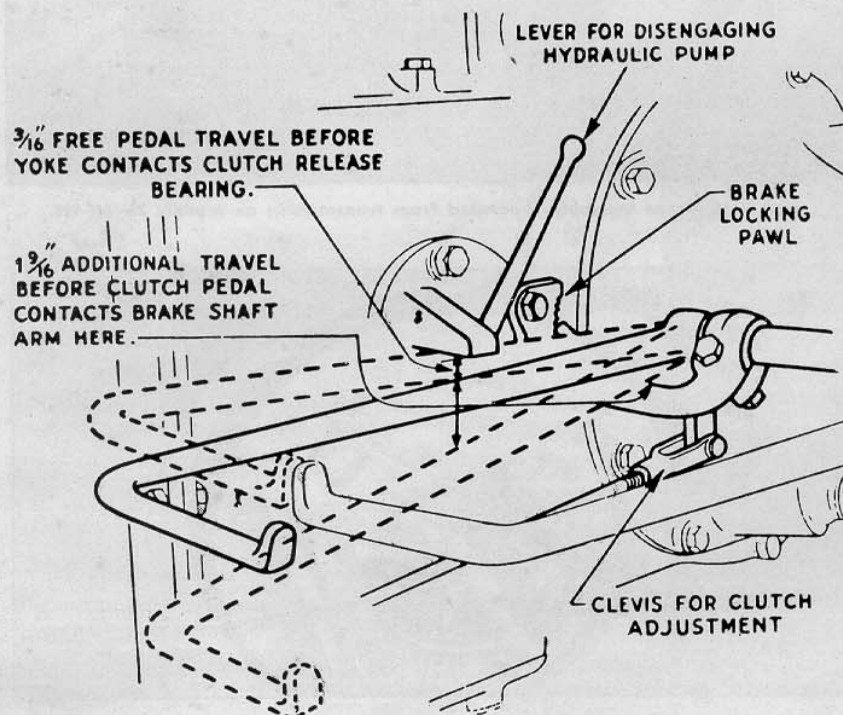
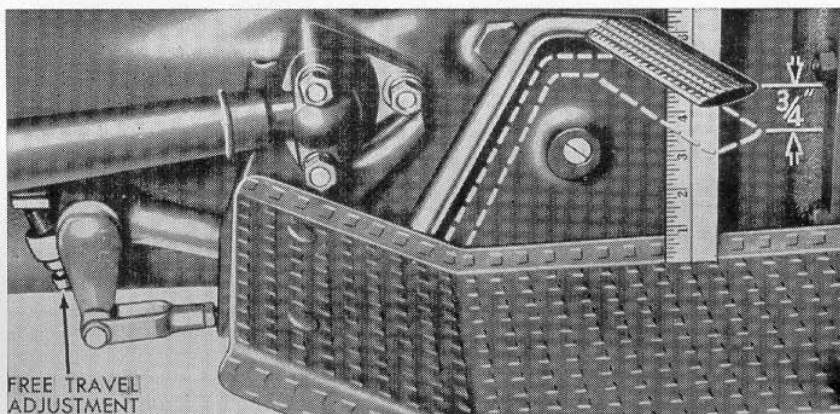

Fig. FO48—Clutch pedal adjustment on models 2N-9N.
Fig. FO49—Clutch pedal adjustment on model 8N.
63. Free travel of models 2N-9N clutch pedal should be $\frac{3}{16}$ inch and for model 8N $\frac{3}{4}$ in. To adjust pedal clearance on models 2N-9N, remove clutch rod clevis pin as shown in Fig. FO48 and screw clevis in or out as required and reconnect. Early model 8N tractors have an adjustment screw which is part of clutch pedal as shown in Fig. FO49. Later 8N tractors have a rod linkage system with a clevis adjustment.